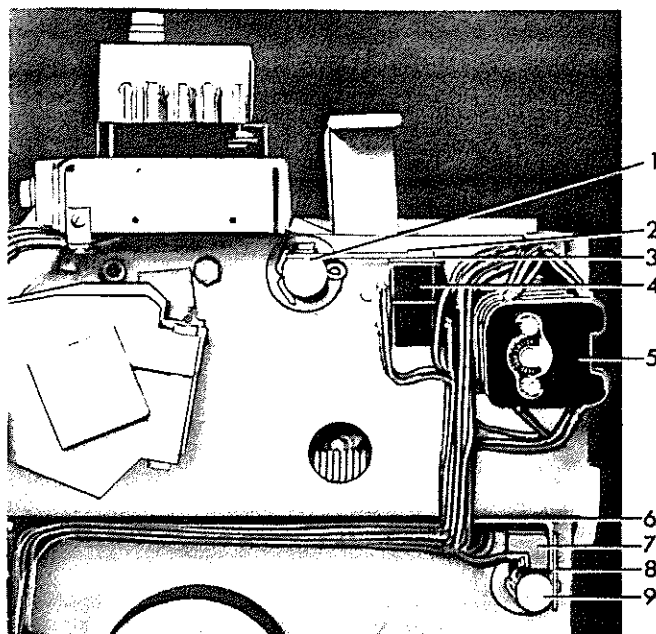

Figure 12. (8034474) Positive Interlock Switch
Refer to Figure 12. With the positive interlock in the reset, or normal position the clearance between the interlock switch arm (2) and the switch mounting plate (3) should be  $1/32''$  or less. This can be adjusted by bending the switch arm.